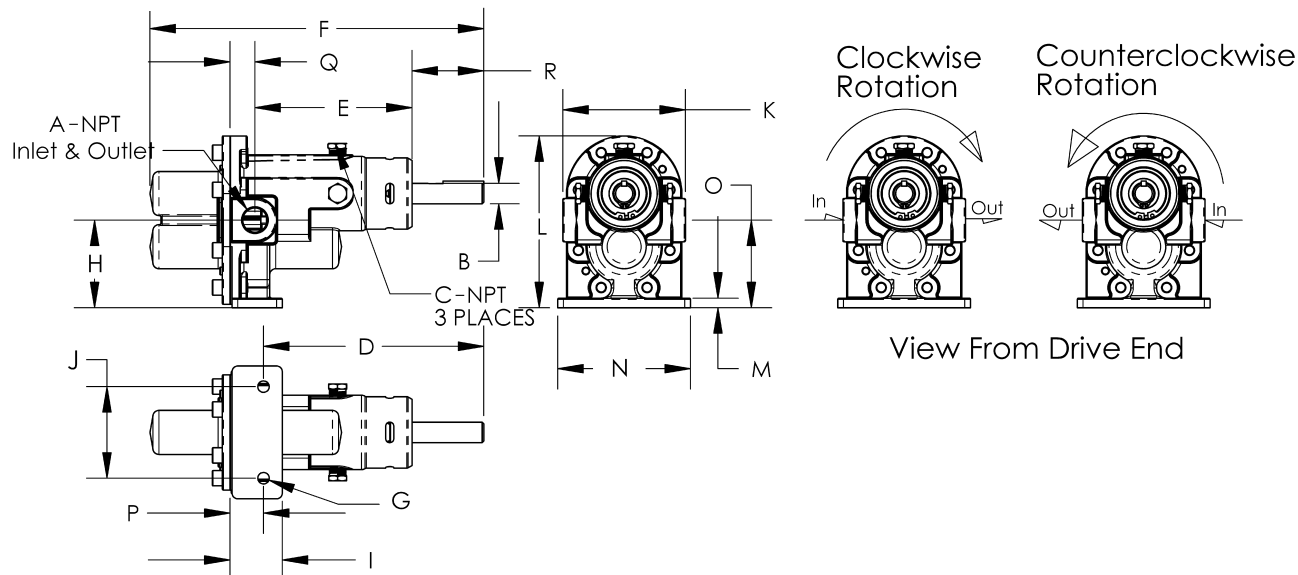

Figure 1
3. Attach suction line to suction inlet (See Figure 1 for proper rotation).
4. Recheck motor and pump rotation. Pump rotation is by-directional (See Figure 1).
NOTE: Pedestal Gear Pumps will operate equally well in either direction (See Figure 1). When looking at the pump drive shaft end and rotating the shaft clockwise, the discharge port is on the right-hand side. When turning counter-clockwise, the discharge port is on the left-hand side.